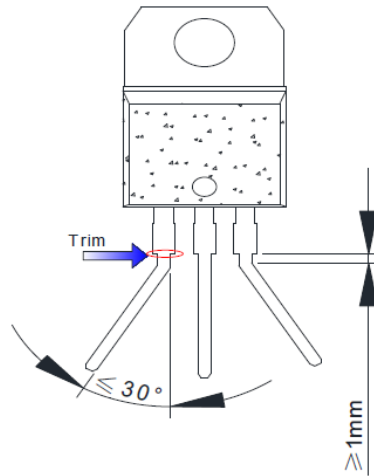

Fig. 3 Lead bending laterally
- When bending the leads laterally, as shown in Figure 3, leads can be bent as near to the trim as